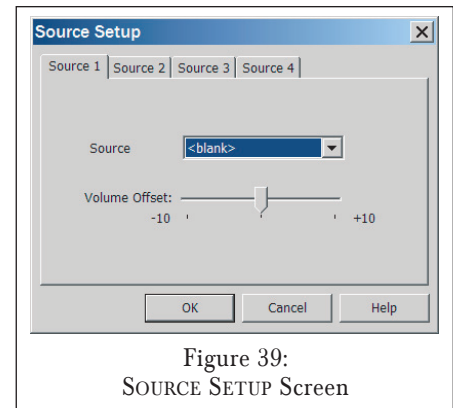

Figure 39:
1. Open the DEVICE menu and select SOURCE SETUP. The SOURCE SETUP screen (Figure 39) will appear.
- The source names you selected on the SOURCE SETUP screen (see *Figure 39*, on page 30) will appear on the four SOURCE buttons.